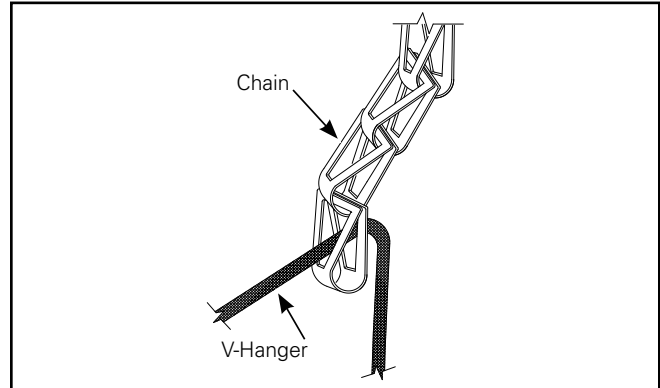

Figure 2.
1. Slide V-Hanger through center hole of last link of chain. (Figure 2.)